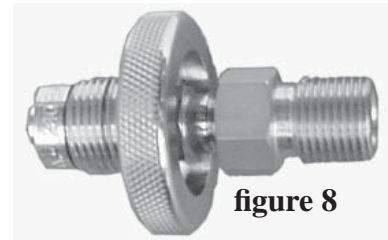

figure 8
6.3. This unit may be filled from any source of air that meets or exceeds CGA Grade “D” standards at pressures up to and including 4500psi. The standard inlet fitting is a 4500psi or a 300 BAR DIN (DIN-F) SCUBA fitting (PRS6). For US users, adapter for CGA 347 fill connections are provided. (figure 8)